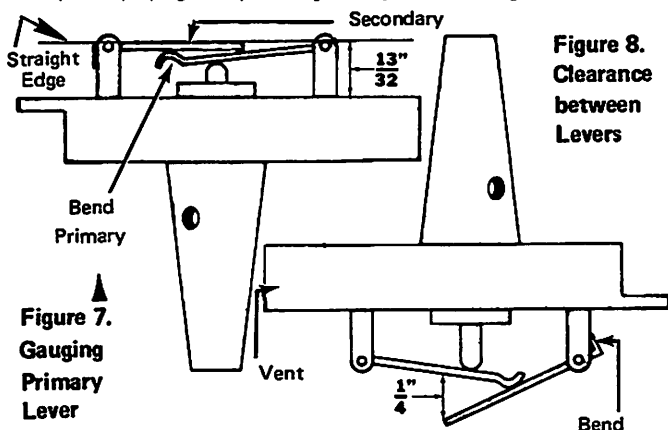

Figure 8.
3. Hold float bowl cover upright. (Figure 8) Distance between levers is  $1/4$ " (6.4mm). Bend tab on secondary lever as required.